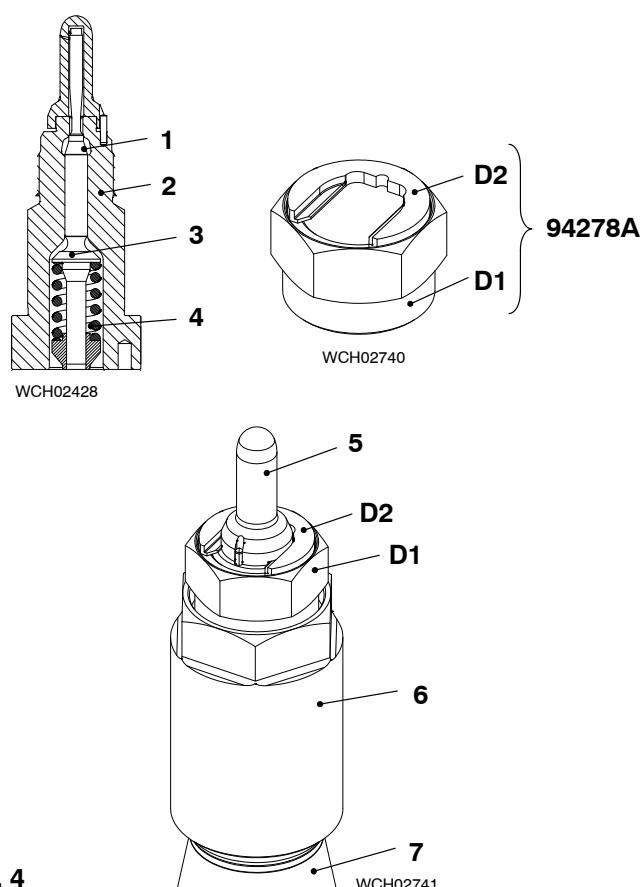

Fig. 4
- 2) Make sure that the needle (1, Fig. 4), compression spring (4) and tappet (3) are removed from the nozzle body (2).
- 3) Attach the nozzle body (2) with coupling nut (6) to the injection valve (7) on the test bench.
- 4) Attach the hexagonal nut D1 (94278A) to the nozzle body (2).
- 5) Put the plate D2 in the clearance between the nozzle body (2) and the nozzle tip (5).
- 6) Carefully turn the hexagonal nut D1 up to remove the nozzle tip (5).
- 7) Remove the nozzle tip (5) from the nozzle body (2).
- 8) Remove the tool (94278A) from the nozzle tip (5).